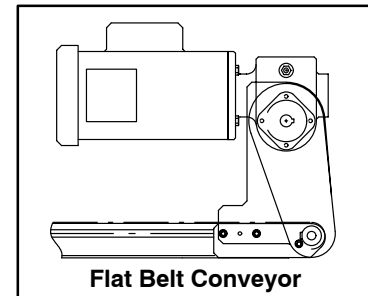
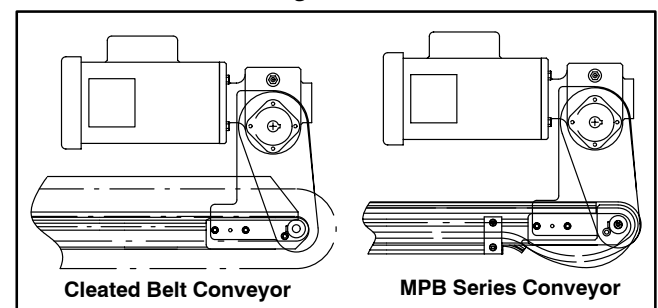

Figure 2
Figure 3
Gearmotors must be mounted as shown in Figures 2 and 3. Failure to do so creates pinch points which can cause severe injury.
**NOTE:** Gearmotor position on Flat Belt conveyors shown in Figure 2. Gearmotor position on Cleated Belt and MPB Series conveyors shown in Figure 3.